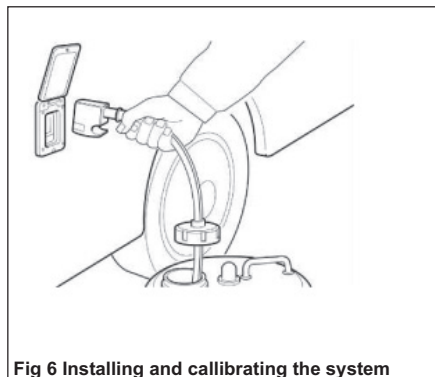

Fig 6 Installing and calibrating the system
- Step 1 - Place pump into a full water container (Fig 6).